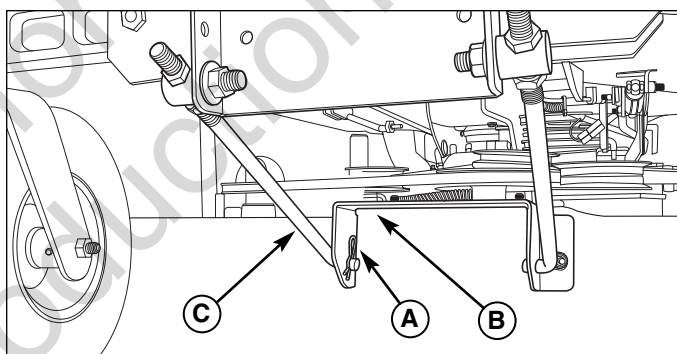

Figure 18. Front Deck Lift Components
5. Remove the hairpin clips and washers (A, Figure 18) securing the front mower deck bracket (B) to the front lift rods (C), and pull the rods out from the holes in the bracket. Retain all removed hardware.
4. Insert the front lift rods (C, Figure 18) into the bottom holes in the front mower deck bracket (B), and secure each with a washer and hairpin clip (A).